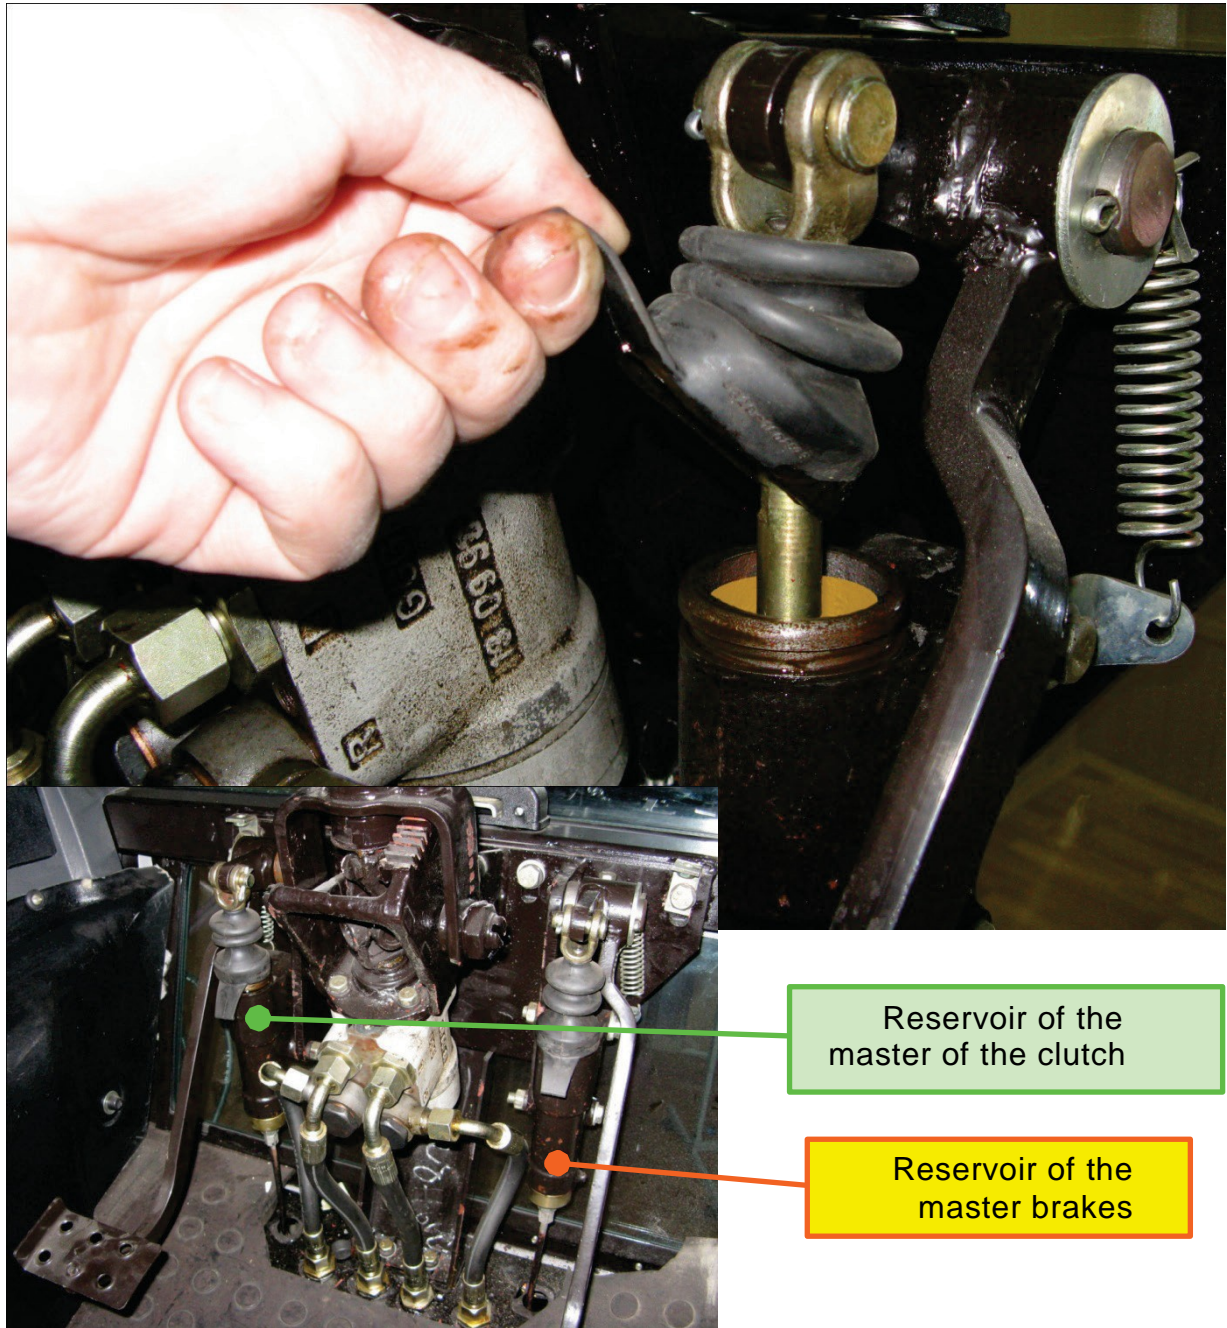

Figure 8.8
**Procedure 6a. Checking the Brake Liquid Level in the Compensation Chamber of the Master Cylinder for Controlling the Clutch and Brakes in the Reverse (fig. 8.8)**